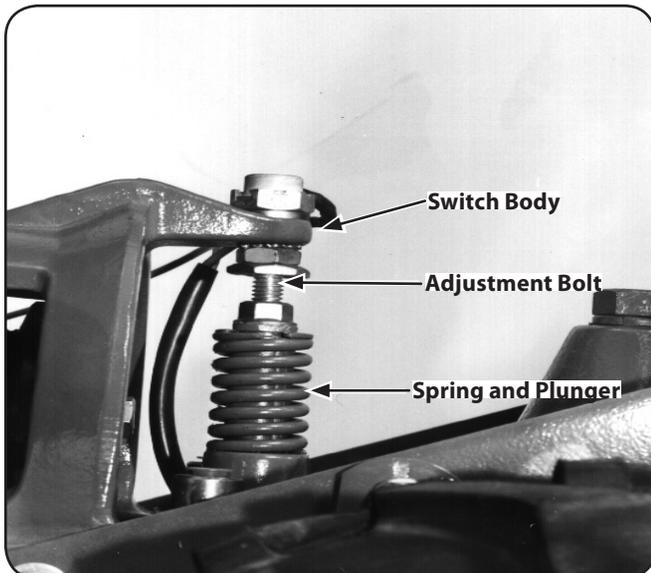

Figure 6-19
When the Wheels/Tines/PTO Drive Lever is moved up into REVERSE, the engine and engine mount move down to press on the reverse adjustment bolt. See Fig. 6-19.
The spring and plunger assembly is designed to prevent the reverse disc from making contact with the transmission pulley until you shift into REVERSE. When the lever is in NEUTRAL, the switch body on the bottom of the engine mount tab should be resting squarely on top of the reverse adjustment bolt. See Fig. 6-19. The reverse adjustment bolt can be adjusted up or down to correct a number of reverse drive operating problems, as explained next.
6. Move the Wheels/Tines/PTO Drive Lever to NEUTRAL. The switch body on the bottom of the engine mount tab should be resting squarely on top of the reverse adjustment bolt, and the reverse disc should be at least  $\frac{3}{16}$ " away from the transmission drive pulley. See Fig. 6-19. If the reverse disc is any closer than this, raise the reverse adjustment bolt (turn it counterclockwise).